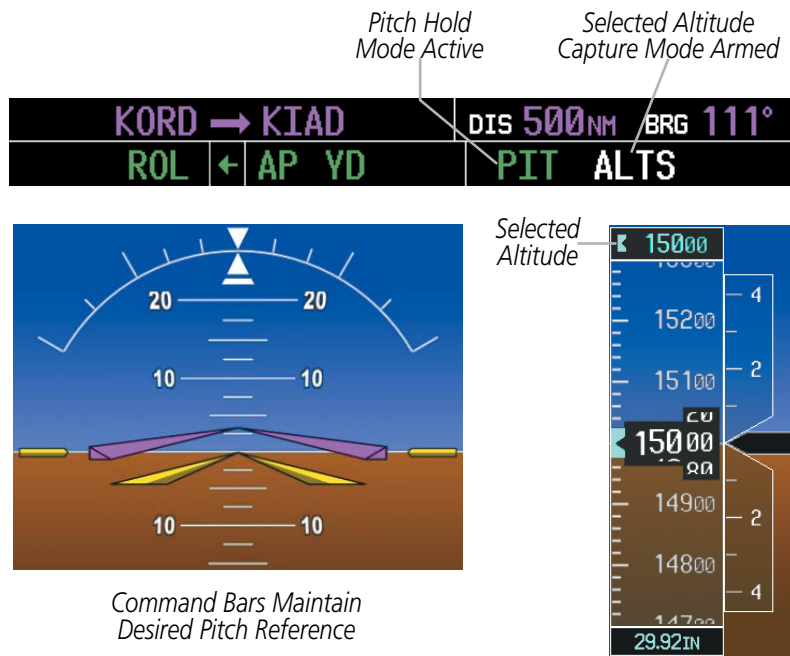

Figure 7-7 Pitch Hold Mode
The white 'ALTS' annunciation indicates Selected Altitude Capture Mode is armed (see Figure 7-7 for example). The **ALT SEL** Knob is used to set the Selected Altitude (shown above the Altimeter) until Selected Altitude Capture Mode becomes active.
- Selected Altitude Capture (see Figure 7-7)